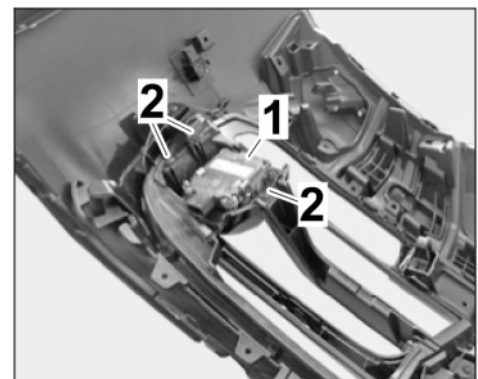

Figure 23
- Position distance measuring sensor control unit in inner air grille (⇒ *Figure 23*).